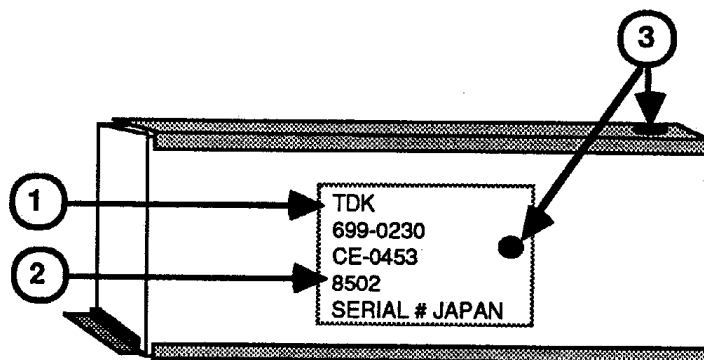

FIGURE 10
1. The marking "TDK" (Figure 10, #1).
2. A date code between 8501 and 8526 (Figure 10, #2). These power supplies occasionally turn themselves back on spontaneously. When they do, all RAM on the logic board can be damaged.
Note: Black ink markings in either place indicated in Figure 10, #3, designates a reworked power supply that has had the problem corrected. These power supplies do not need to be exchanged.